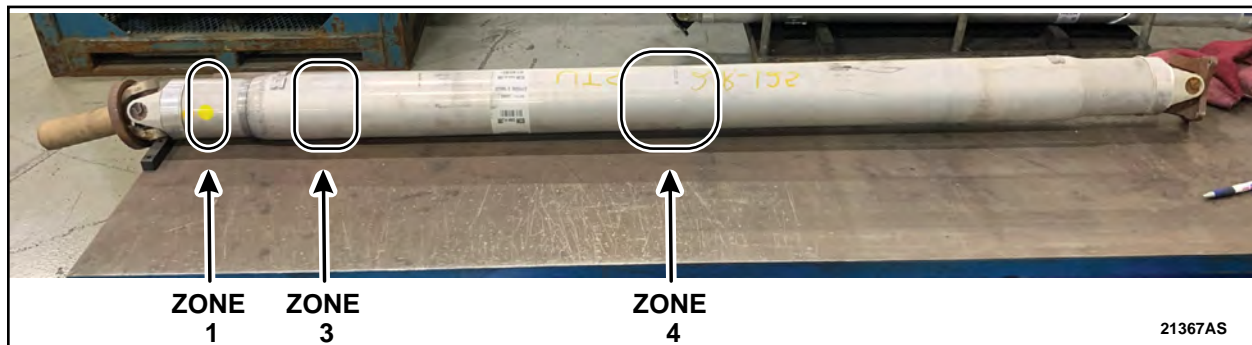

FIGURE 2
- Inspect Zones 1, 3 and 4 of the rear driveshaft for any marks caused by the front and/or rear edges of the passenger side insulator. Are there any marks present in Zones 1, 3 or 4? See Figure 2.